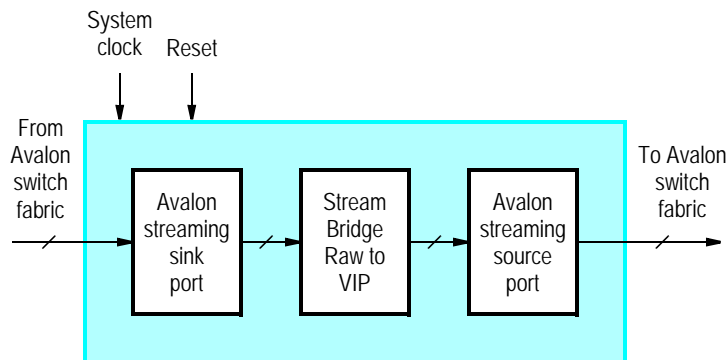

Figure 66. Video-Stream Bridge: Raw to VIP core’s block diagram.
The Raw-to-VIP bridge take an input stream in the University Program (UP) video stream format and converts it to the VIP format. Then, the VIP-formatted data is outputted via the Avalon streaming source interface. Figure 66 shows a block diagram of the core. The UP video stream format is essentially raw video data, as described in Section 2.2.